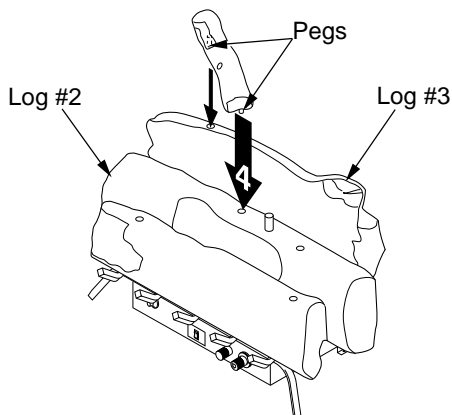

Figure 27 - Installing Crossover Log (#4) (CCL3930PR/NR Shown)
4. Locate pegs on the bottom of crossover log (#4). Slide these pegs into the holes located in middle log (#2) and back log (#3). See Figure 27 for placement.